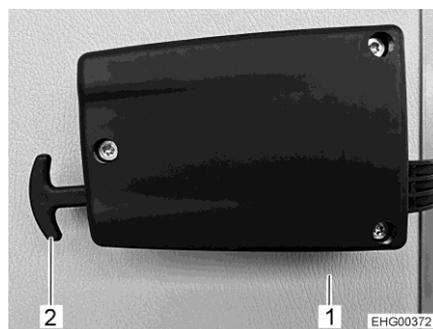

Fig. 45 Garage flap emergency release
- Pull both handles of the emergency release (Fig. 45,2).
- Push the garage flap (Fig. 45,1) outwards.